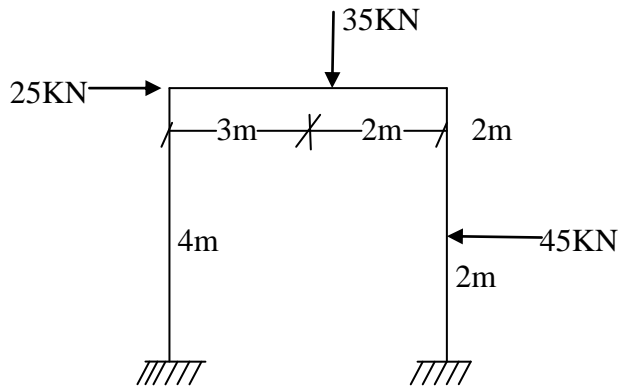

Fig 1
Q.8 Analysis the frame shown in fig.1 by stiffness method. Draw BWD